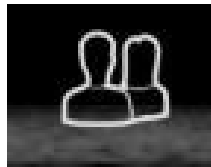
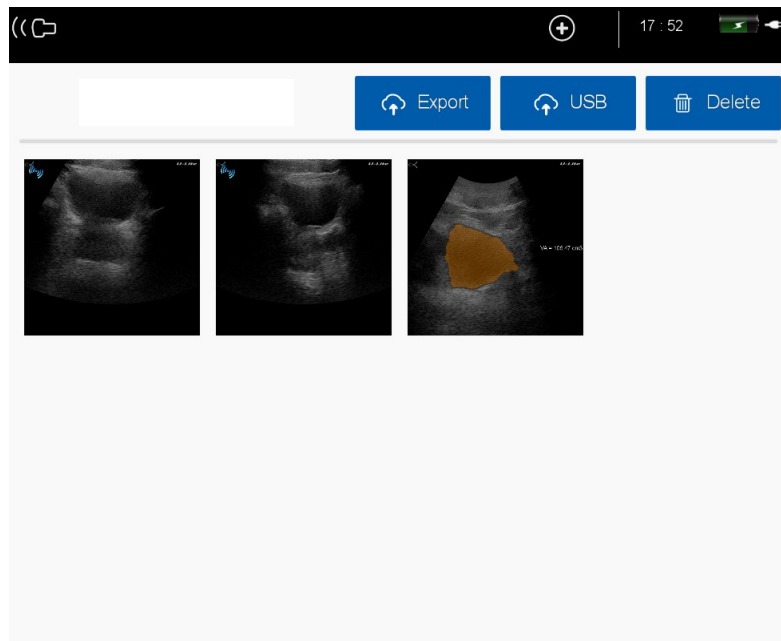

Figure V-2 - Data Review Icon
Figure V-3 - Image Review Window
- Click on Data Review icon (cf. Figure V-2) to open the image review window (cf. Figure V-3)